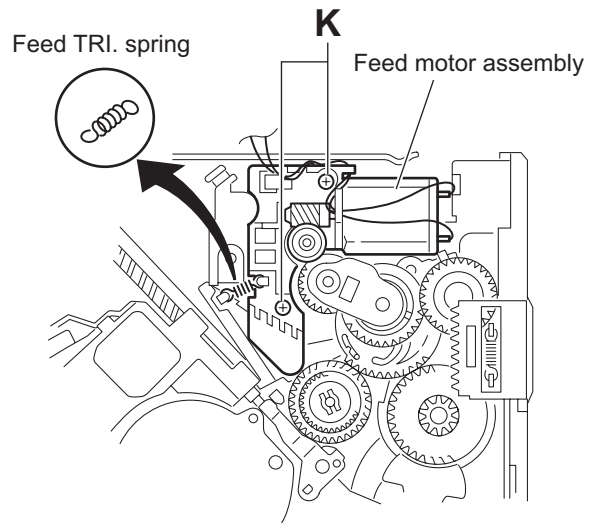

Fig.21
3.4.11 Removing the feed motor assembly (See Figs.21 and 22)
(See Fig.21.)